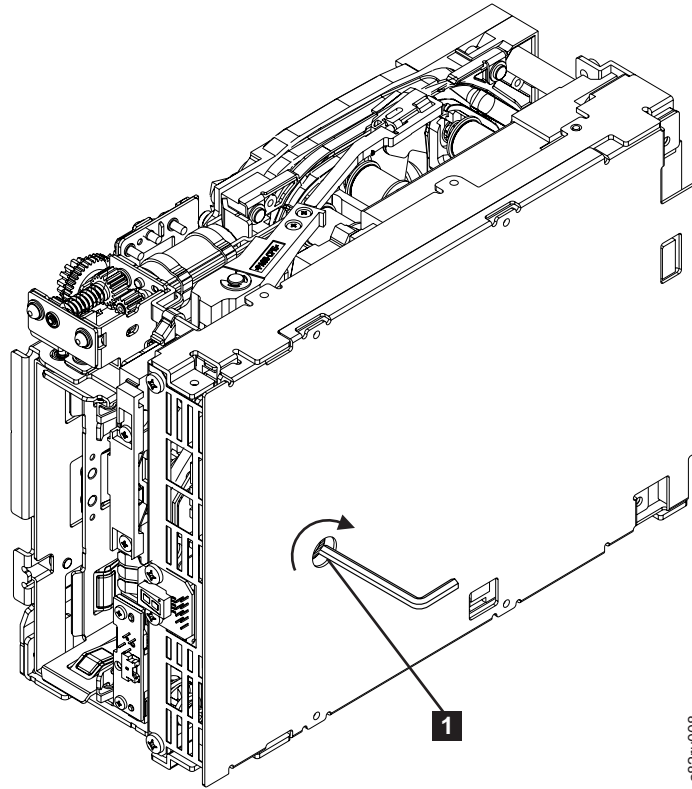

Figure A-9. Using hex wrench to rewind tape into cartridge
6. From the bottom of the drive, locate the access hole (**1** in Figure A-9 on page A-10) in the bottom cover. Insert a 2.5 mm offset hex wrench through the bottom cover access hole and into the reel motor axle. begin spooling tape back into the cartridge by turning the hex wrench clockwise.